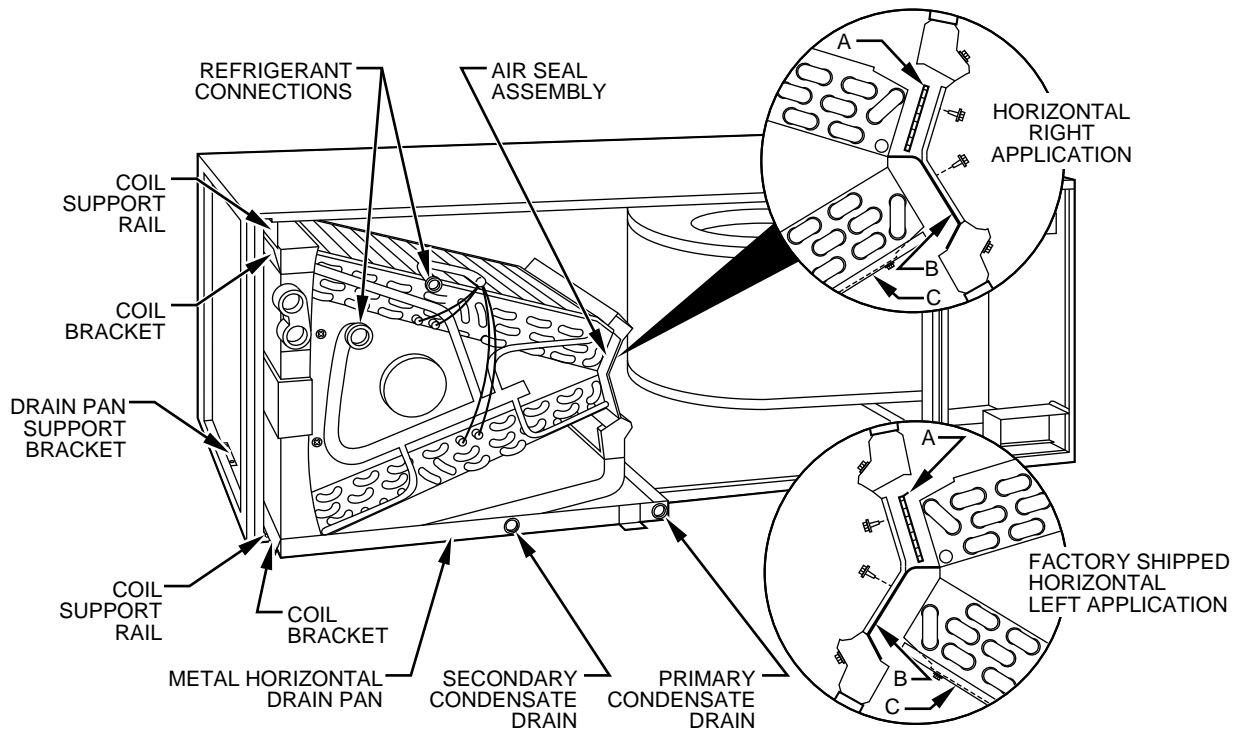

Fig. 8—A-Coil in Horizontal Right-Application
1. Remove blower and coil access panels. (See Fig. 8.)
8. Convert air seal assembly for horizontal right. (See Fig. 8, inset.)
- b. Remove air splitter (B) from coil seal assembly by removing 3 screws.
- c. Remove filler plate (A) and install air splitter (B) in place of filler plate.
- d. Install filler plate (A) as shown in horizontal right application (See Fig. 8, inset.)
- e. Remove condensate troughs (C) and install on opposite tube sheets. (See Fig. 8 insets.)
10. Slide coil assembly into casing. Be sure clips on each corner engage coil support rails. (See Fig. 8.)